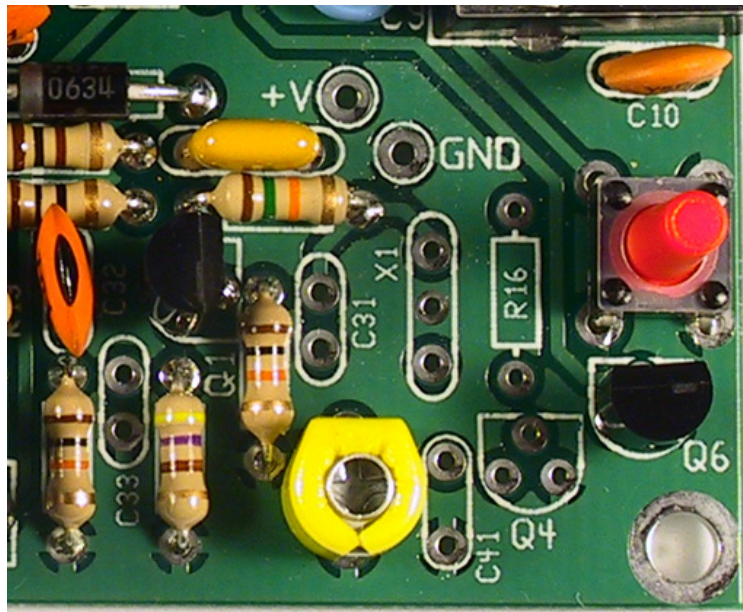

Figure 1. DC Rev A Kit Ready for Modification
- For a new kit, install the components listed in Group 3 of the instructions, but don't install C31, C33, C41, Q4, R16 or X1. Figure 1 shows how the board should appear after you complete this step.